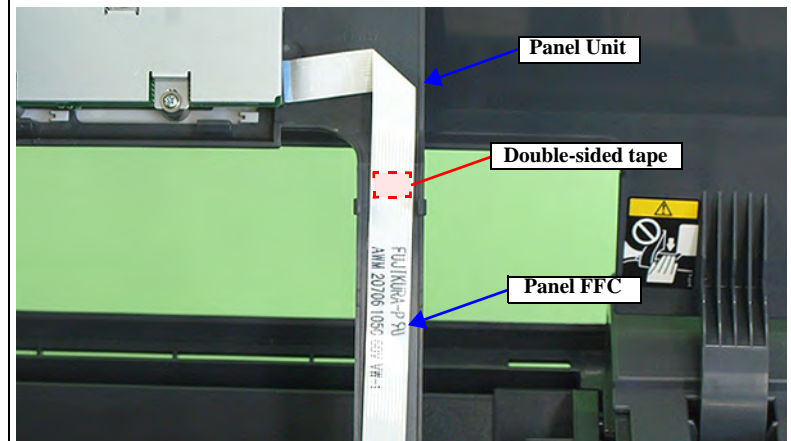

Figure 4-12. Securing the Panel FFC
- Route the Panel FFC correctly as shown in Figure 4-12.